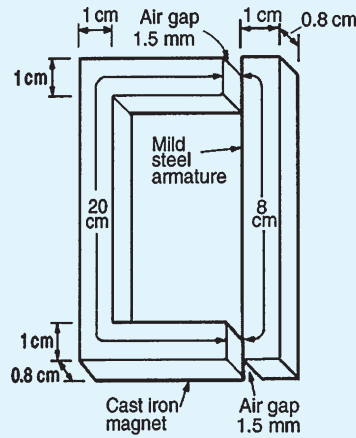

Figure 7.8
- Fig. 7.8 shows the magnetic circuit of a relay. When each of the air gaps are 1.5 mm wide find the m.m.f. required to produce a flux density of 0.75 T in the air gaps. Use the B–H curves shown on page 83.